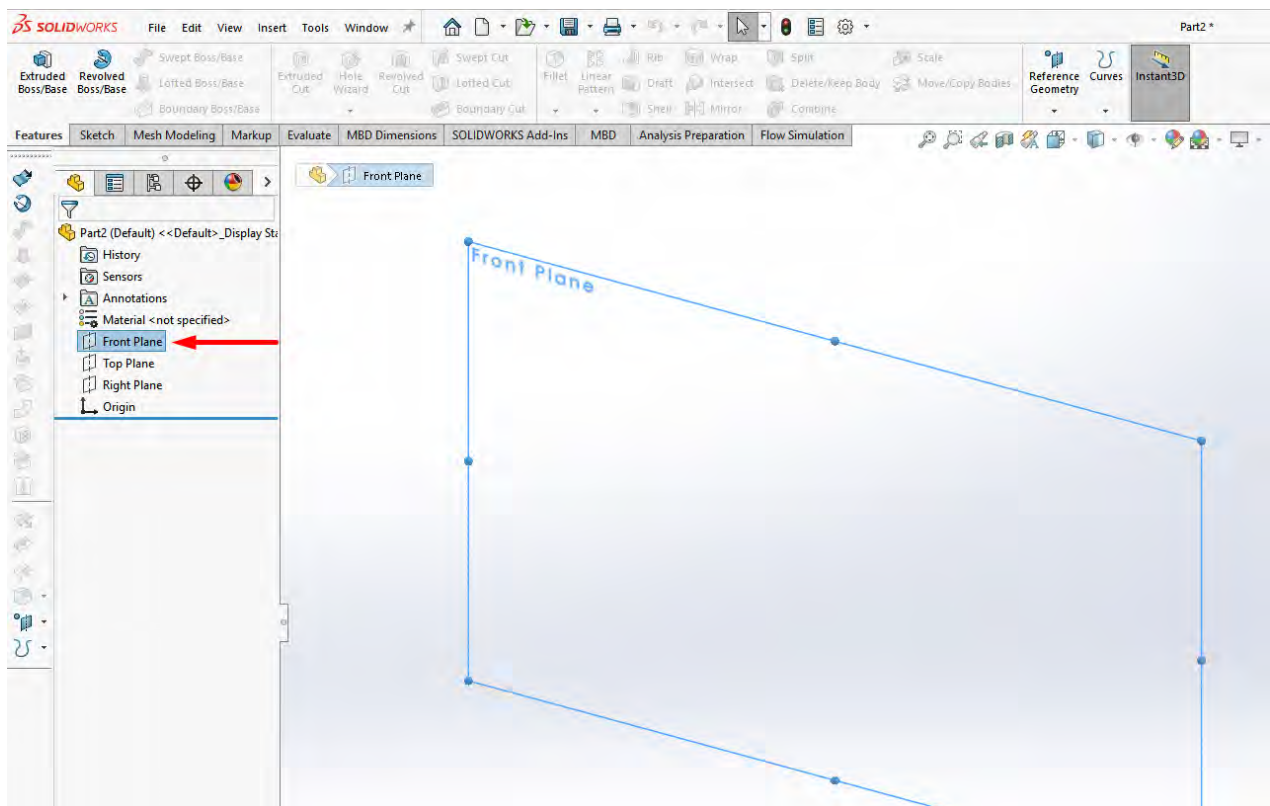

Fig. 3
3. Select a plane to create a sketch on, for example, **Front Plane** (Front plane) (Fig. 3).